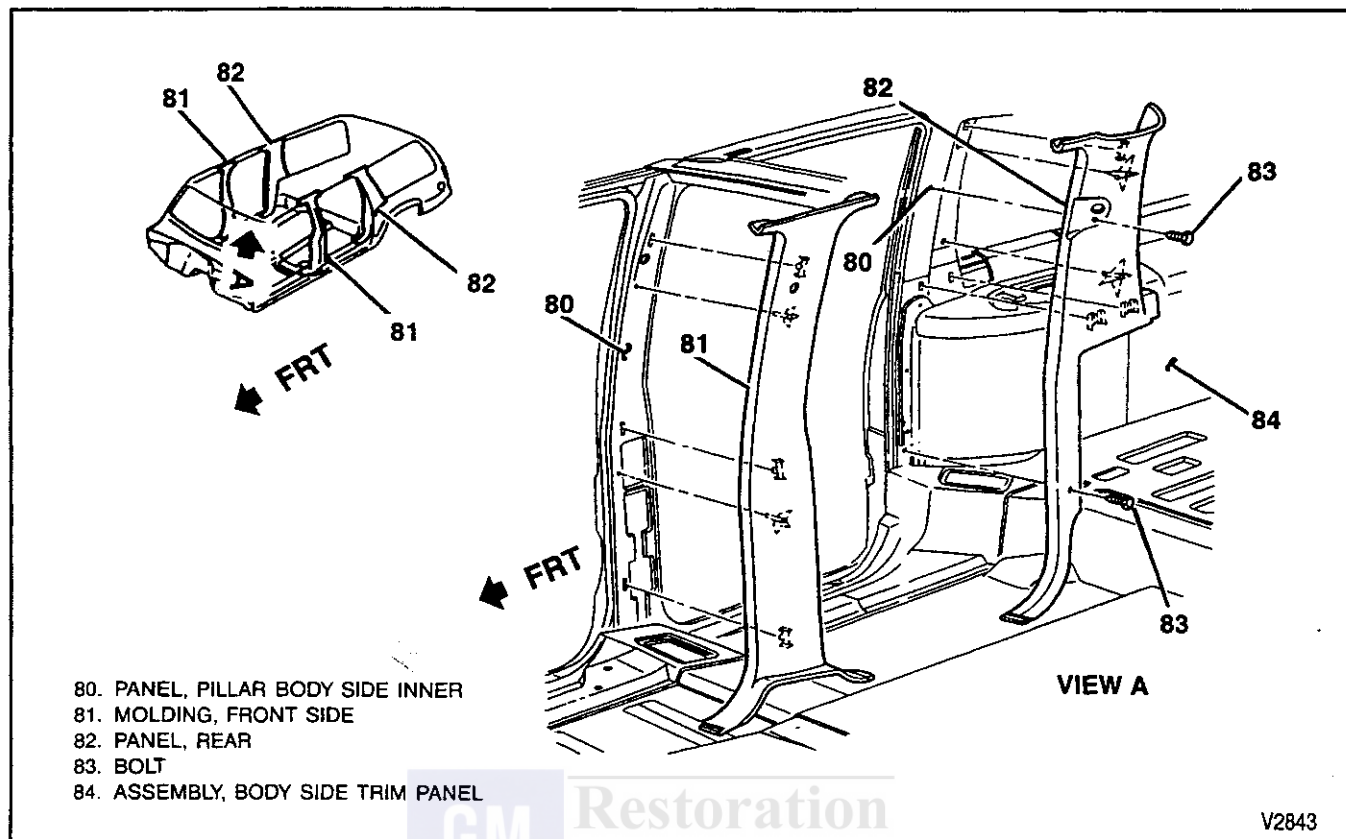

Figure 25—Pillar Moldings
**Remove or Disconnect (figure 25, 26 and 28)**
**Install or Connect (Figure 25, 26 and 28)**